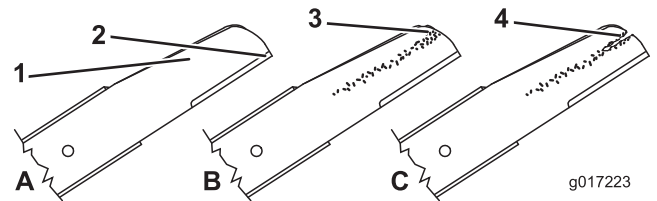
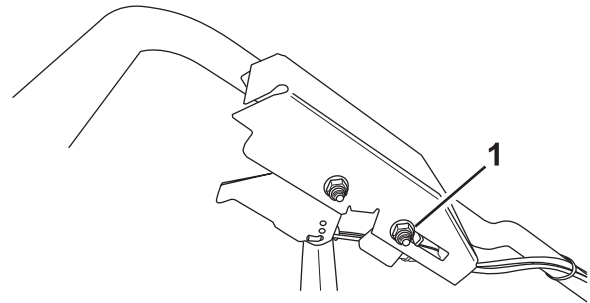

Figure 36
Figure 42
1. Inspect the cutting edges (Figure 36). If the edges are not sharp or have nicks, remove the blades and have them sharpened or replace them.
2. Inspect the blades themselves, especially the curved area (Figure 42). If you notice any damage, wear, or a slot forming in this area (Figure 36), immediately replace them with new blades.
- Loosen the cable-support nut (Figure 42).